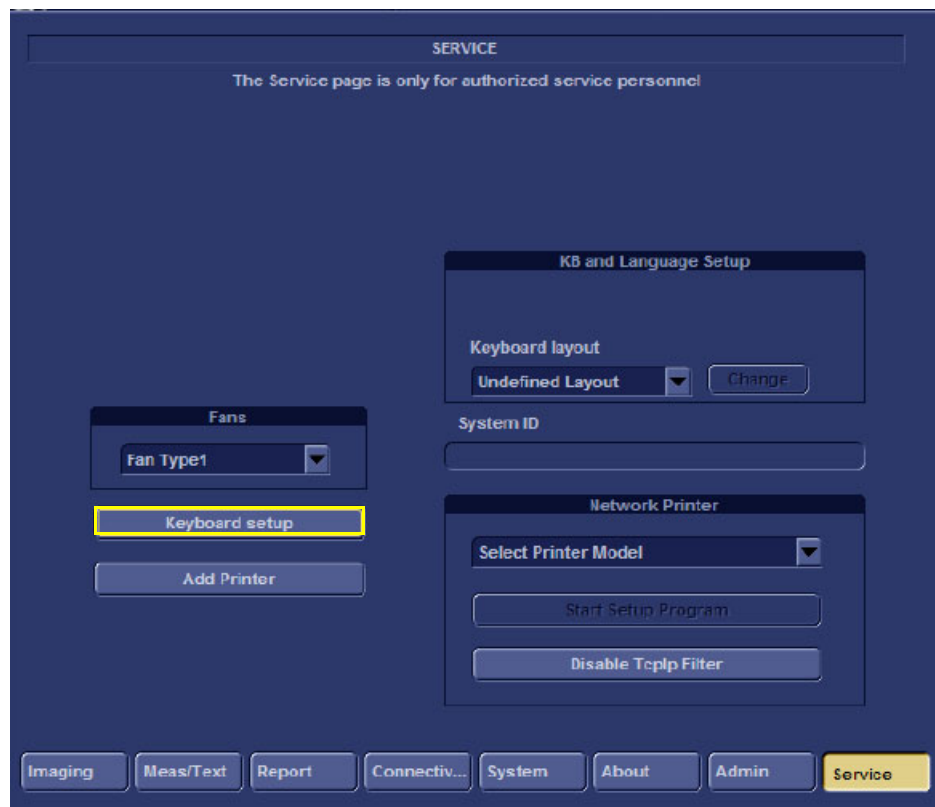

Figure 3-72 Service Screen (Example)
- 2.) Select **SERVICE** to view the Service Screen, see Figure 3-72 below.